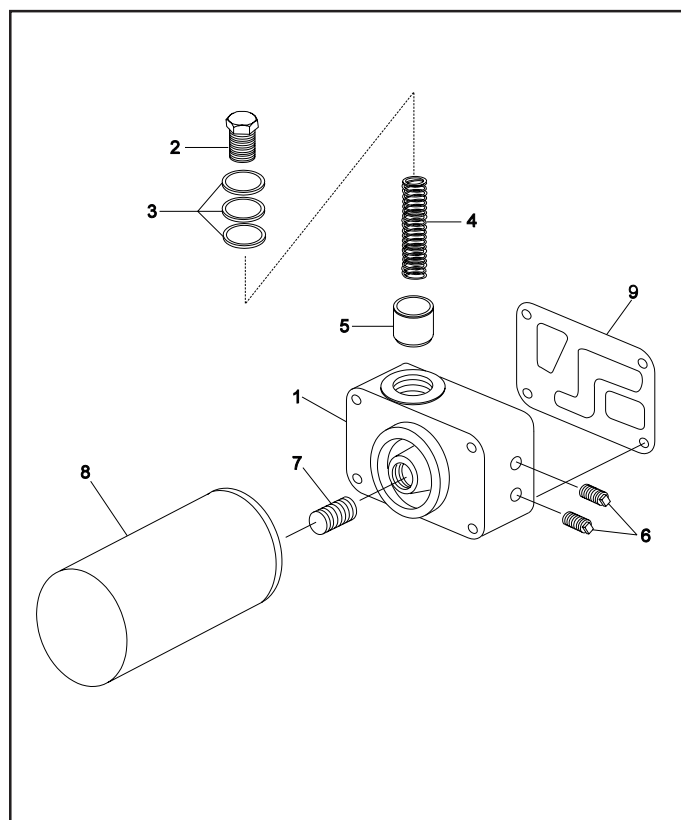

Figure 6 - Spin-on Oil Filter and Valve
Reference Figure 6
- Check oil pressure and if necessary, remove a shim washer to achieve desired pressure. Replace the Oil Relief Valve Assembly (Part No. 592389) if oil pressure can not be corrected by the removal of the shim (Fig. 6 item 3).